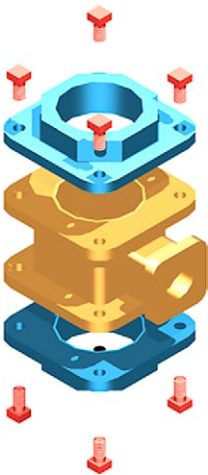

Fig. 17.11 Second example UCS
19. Finally move all the parts away from each other to form an exploded view of the assembly (Fig. 17.11).